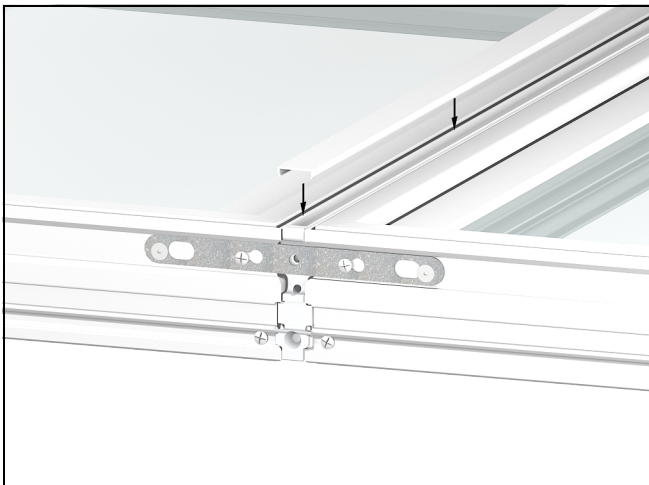

Figure 9
6. Install the exterior mull cover. These should be flush with the interior edge of the accessory kerf. You may have to seat the cover with a rubber mallet or wood block and hammer. Flip the assembly. Interior mull cover will be installed after unit is secured in the opening. See Figure 9.